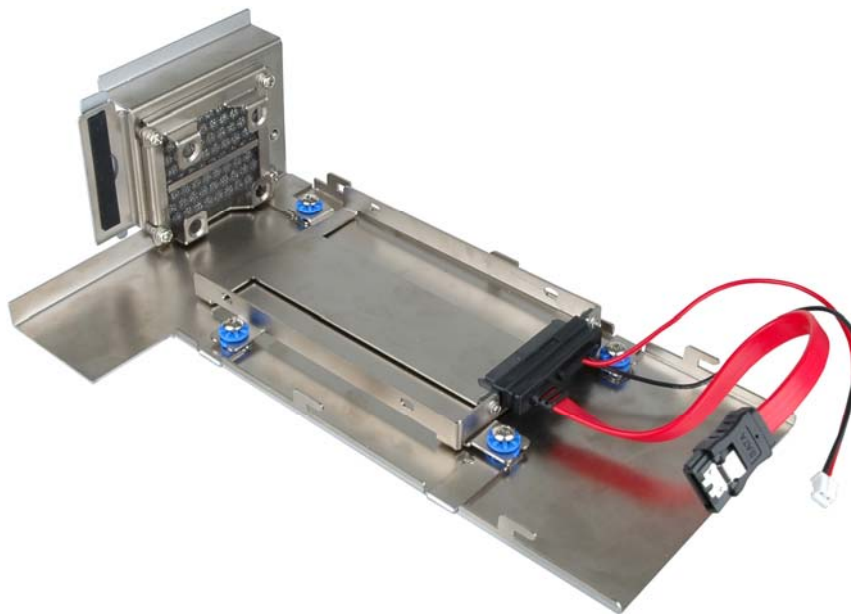

Figure 3-5: Remove the Cover from TANK-800
**Step 2:** Unplug the SATA signal and power cables connected to the TANK-800, and then put the cover on a flat surface (Figure 3-5).
**Step 2:** Unplug the SATA signal and power cables connected to the TANK-800, and then place the cover on a flat surface (**Figure 3-5**).